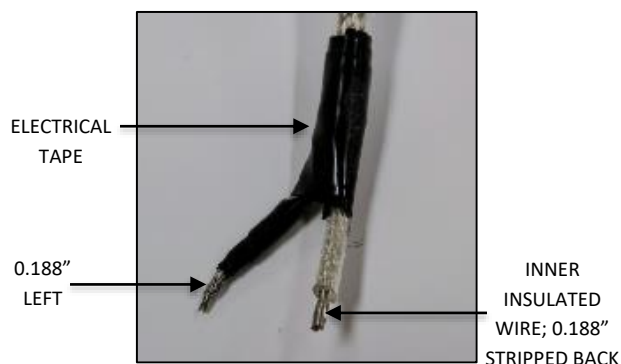
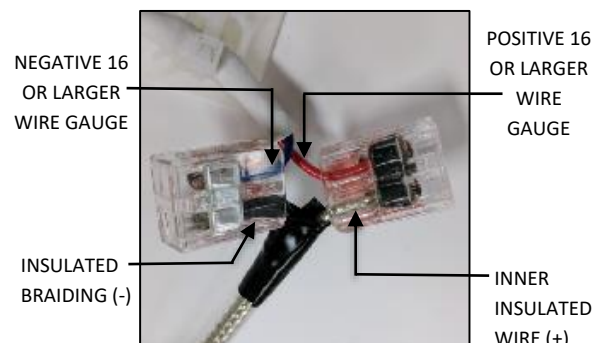

FIG. 23
FIG. 24
- Using electrical tape, insulate the twisted strands leaving 0.188" exposed for connections. Strip off 0.188" of the inner insulation as you normally would for 18AWG stranded core wire as shown in FIG. 23 below. Connect the inner insulated wire (+) to the positive 16 gauge or larger wire ran in step 5 at the hanging bracket and Connect the outer braiding (-) to the negative 16 gauge or larger wire ran in step 5 at the hanging bracket FIG. 24 below.